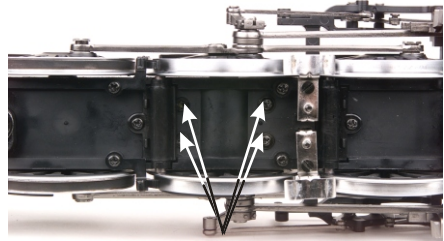

Figure 14: Removing The Gear Box Bottom Access Cover
3. Locate and remove the four gearbox bottom access cover screws as seen in Fig. 14.